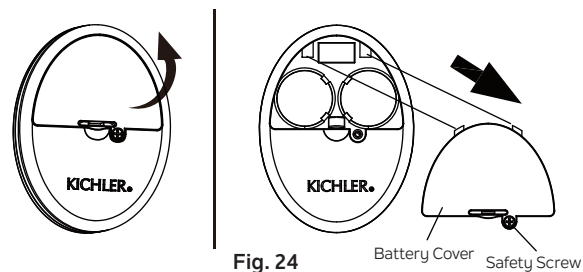

Fig. 24
Step 1. To remove or replace the batteries, loosen the safety screw and remove the battery cover from the back of the transmitter to access the battery compartment. (Fig. 24)